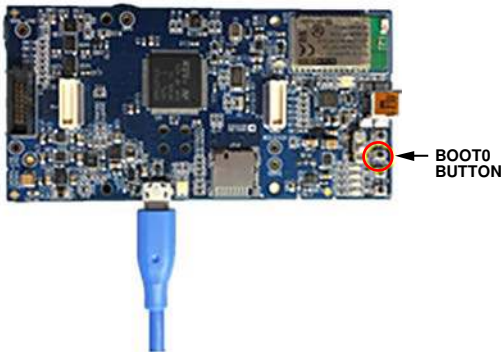

Figure 6. MicroUSB Connection and BOOT0 Button Used When Upgrading Firmware
2. Plug in a microUSB cable between the EVAL-ADPUCZ and the PC with the power to the EVAL-ADPUCZ turned off (see Figure 6).
3. Press and hold the **BOOT0** button, and switch the power switch to the **ON** position (see Figure 6).